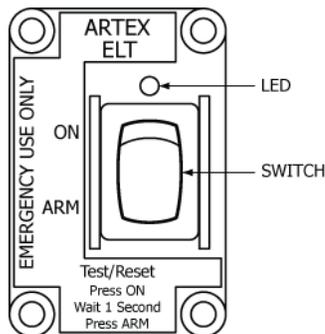

Figure 3 Remote Switch Front View
- 2) The cockpit-mounted remote switch assembly is comprised of an ELT status LED and control switch, and allows an operator to manually turn the ELT on (i.e., activate) for testing and reset (i.e., deactivate) the ELT. See Figure 3 Remote Switch Front View.